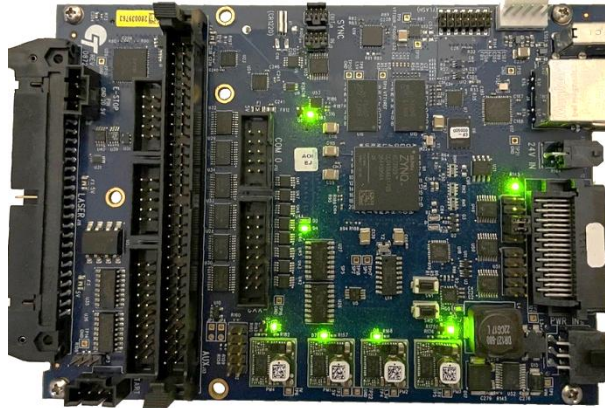

Figure 48: 7 green LEDs if the ScanMaster Controller is powered
- e. Confirm that after the ScanMaster Controller (SMC) is powered for more than 1 minute there are only 7 green LEDs and no red LEDs lit on the SMC, see Figure 48 on page 115.